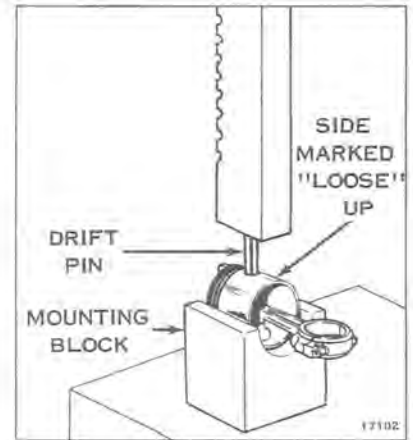

Figure 9-7
- l. If necessary to remove connecting rods from pistons, remove wrist pin retaining rings, using screwdriver in slot in piston. Press out wrist pin to free piston from connecting rod. See Figure 9-7. Piston wrist pin hole marked "Loose" should be up when pressing out wrist pin to prevent piston damage.